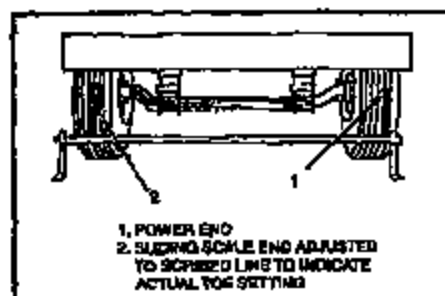

Figure 2.
6. Set the sliding scale end of the transverse bar to zero (0) (Figure 2) and lock the scale in place.
7. Put the tramnel bar at the rear of the front tires so the sliding scale that was set to zero (0) in step 6 is centered against the scribed line on one of the tires (Figure 2).